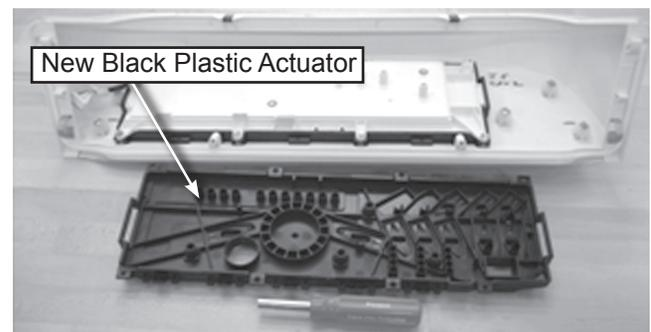

Figure 3
4. Remove new black plastic actuator from the service assembly in the kit. Install the new user interface onto the original black plastic actuator mounted in console. Discard the new black plastic actuator. See Figure 3.
**IMPORTANT:** Hand assemble the seven (7) screws to avoid stripping the threads in the plastic components. Do not use electric screwdriver.